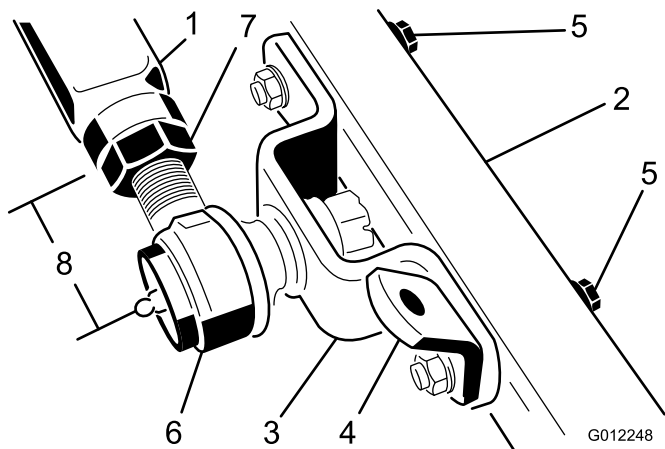

Figure 7
1. Remove the 2 capscrews, flat washers, and flange nuts securing the left-hand ball joint mount and chain bracket to the left-hand castor arm (Figure 7). Remove the ball joint mount and chain bracket.
2. Remove the cotter pin and castle nut securing the left-hand ball joint mount to the left-hand push arm on the traction unit. Install the ball joint mount (removed from the castor arm) to the push arm with the castle nut and cotter pin previously removed (Figure 7).
3. Measure the distance from the end of the left-hand push arm to the center of the ball joint (grease fitting) (Figure 7). The distance should be 64 mm (2-1/2 inches). If the distance is not 64 mm (2-1/2 inches), loosen the jam nut securing the ball joint to the push arm and rotate the ball joint in or out until the distance is attained (Figure 7). Do not tighten the jam nut at this time.